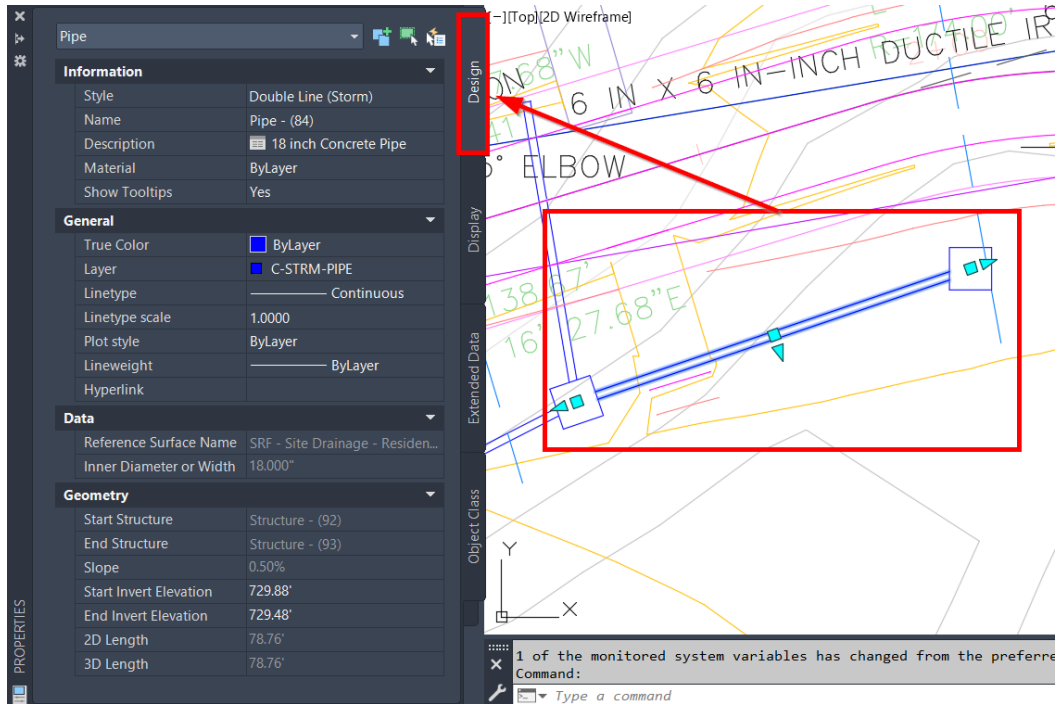

Figure 10.6 – Design property information of Gravity pipe
5. At this point, we have officially created a new property set that can be applied to our pipe objects (**Gravity**, not **Pressure**, as there is a selection specific to pressure pipes). If we now close out of the **Style Manager** dialog box, select one of the Gravity pipes in our file, and pull up our **Properties** dialog box (accessible by right-clicking on **Properties** or hitting the *F1* key), we'll immediately see some basic information related to pipes available in our **Design** tab within the **Properties** dialog box, similar to that displayed in *Figure 10.6*.